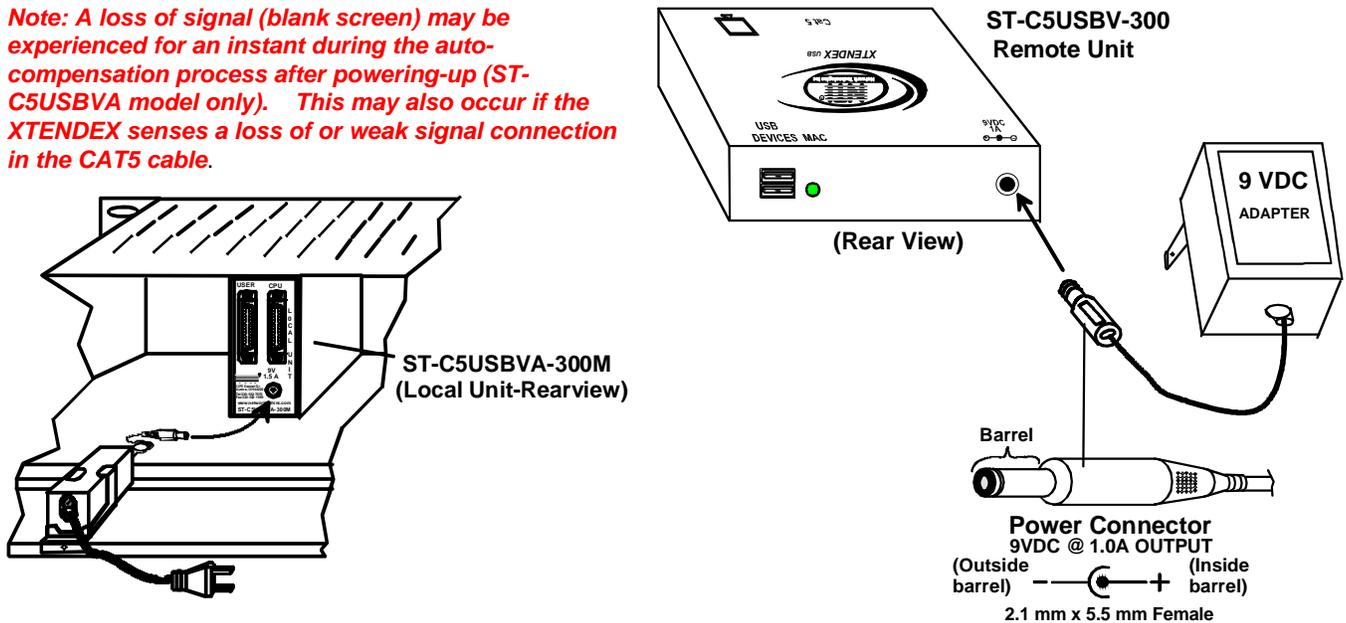

Figure 15- Connect AC adapters
2. Connect the AC adapter power connectors to the 9VDC ports on the Remote and Local Units. (AC adapter shown in Figure 15)